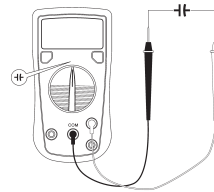

figure 2
B. Capacitor Measurement (UT136B only, figure 2).